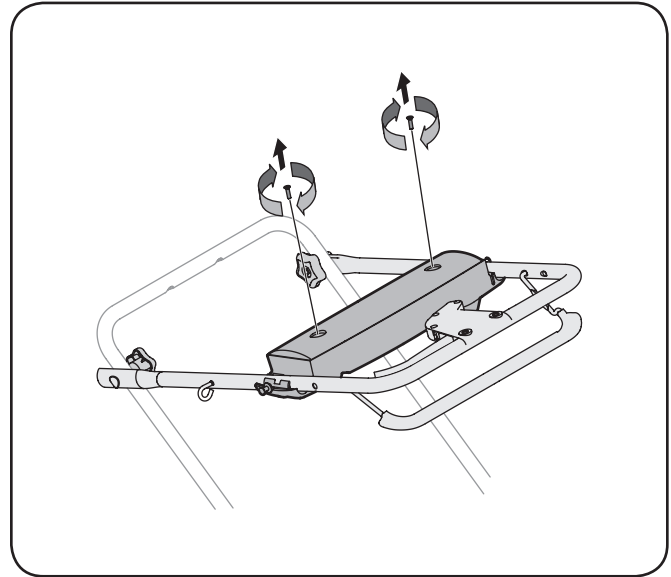

Figure 7-4
1. Loosen star knobs securing upper and lower handles and carefully fold the upper handle down toward the lower handle as shown in Figure 7-4.
2. Remove the two screws securing battery cover to battery housing and place them to the side. See Figure 7-4.
1. Open the battery cover as described in Replacing Battery. See Figure 7-4.